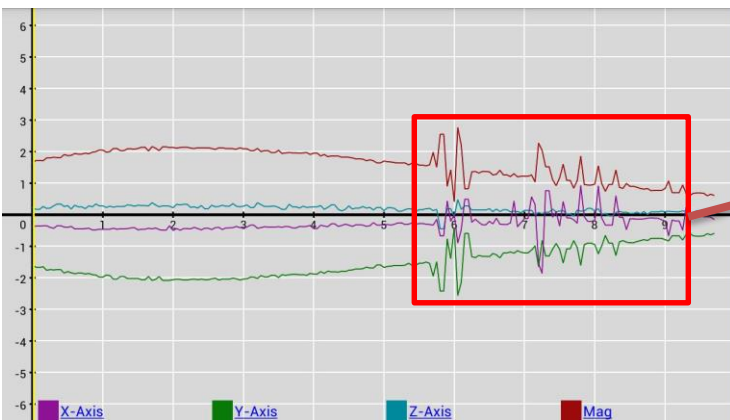
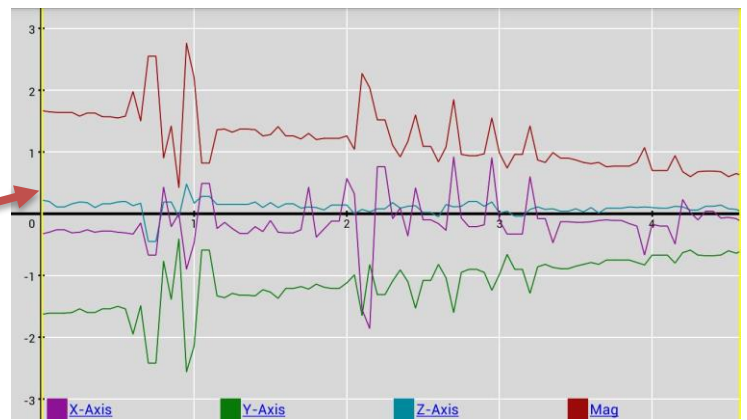

Fig 4.10
Fig 4.11
- A powerful function of the graph is that you can zoom in and out the graph in x- and y-axis by sweeping with two fingers. Fig 4.10 is a zoom-out of the plot, Fig 4.11 is a zoom-in of the plot.